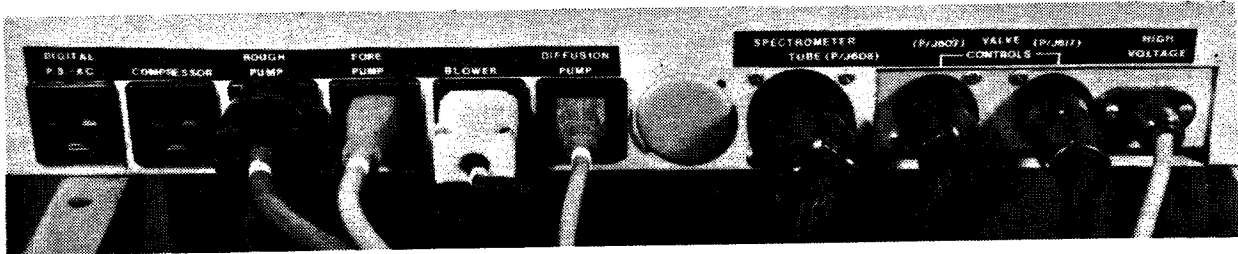

Figure 6-23.
5. Check that all cords from pumps, compressor (if present), spectrometer tube and valve control cables are connected. (See Figure 6-23.)